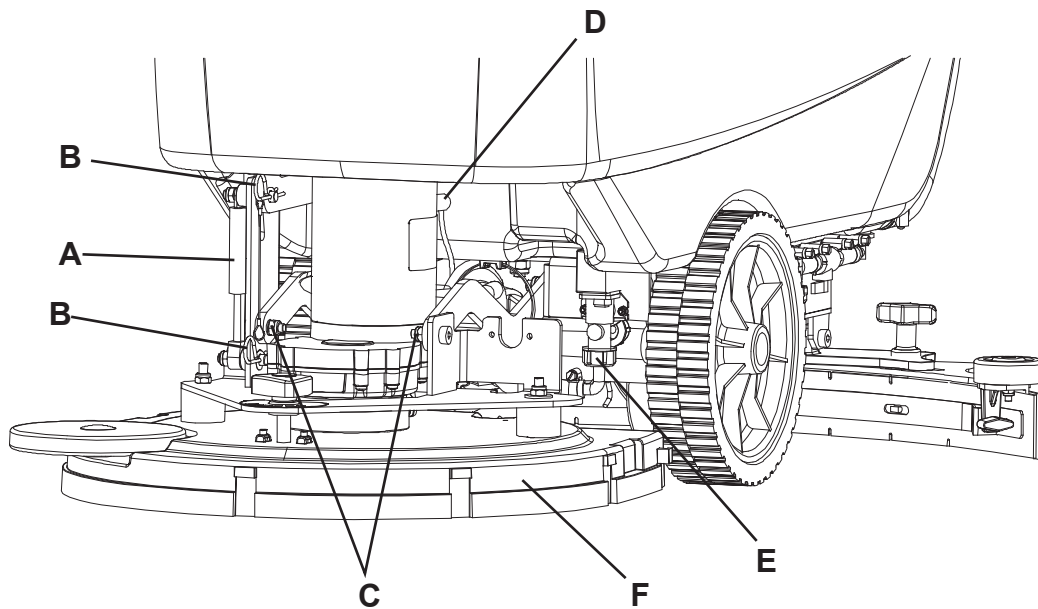

Figure 12
3. Lower the brush/pad-holder deck by pressing the pedal (11).
4. If equipped, remove the cotter pins (B, Fig. 12) and the gas spring (A).
5. Disconnect the brush/pad-holder motor electrical connection (D).
6. Disconnect the solution hose union (E).
7. Remove the screws (C), then remove the brush/pad-holder deck (F).